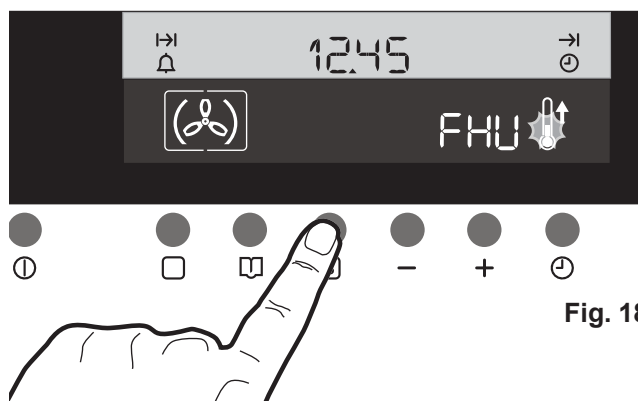

Fig. 18
4. Press the "Fast Heat Up Function" button . The temperature display shows "FHU" (Fig. 18).